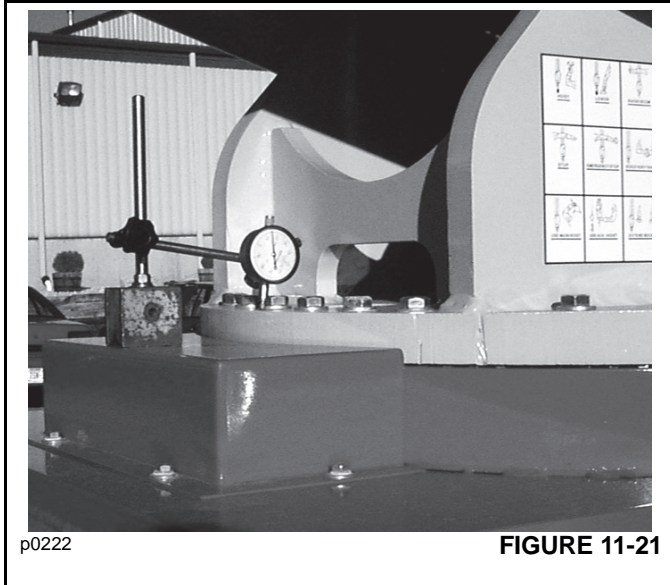

FIGURE 11-21
- With the boom forward, fully extended and in a horizontal position, place a dial indicator on the swing gearbox cover and mast as shown in Figure 11-21.